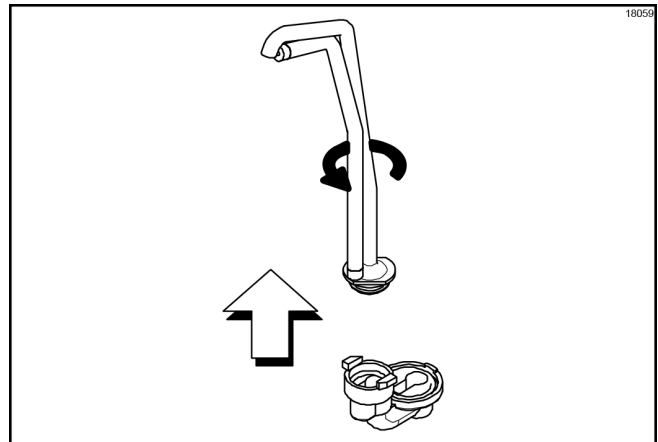

Figure-80
12. Remove the discharge tube from the valve body by turning it counterclockwise. (See Figure-80.)